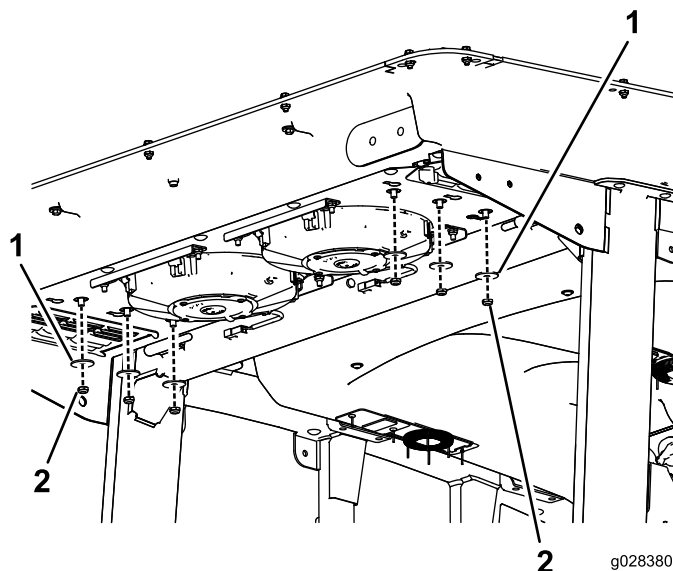

Figure 87
2. Remove the 6 nuts and washers from the bottom of the rear of the cab (Figure 87).